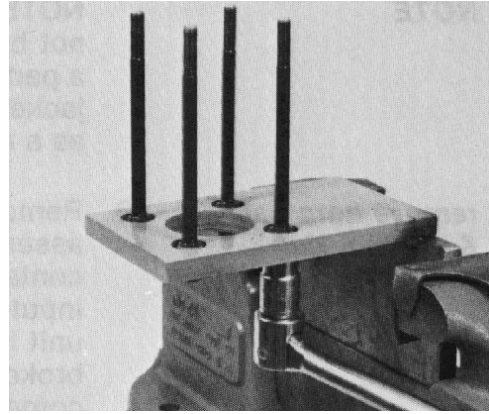

Figure 63
1. Put the four bolts into the fixture with the shortest threaded end of the bolts through the fixture holes (Fig. 63). Secure the bolts to the fixture with four 5/16-24 UNF nuts. Tighten the nuts to secure the assembly to the fixture, but loose enough to turn the bolts and facilitate stacking of components.